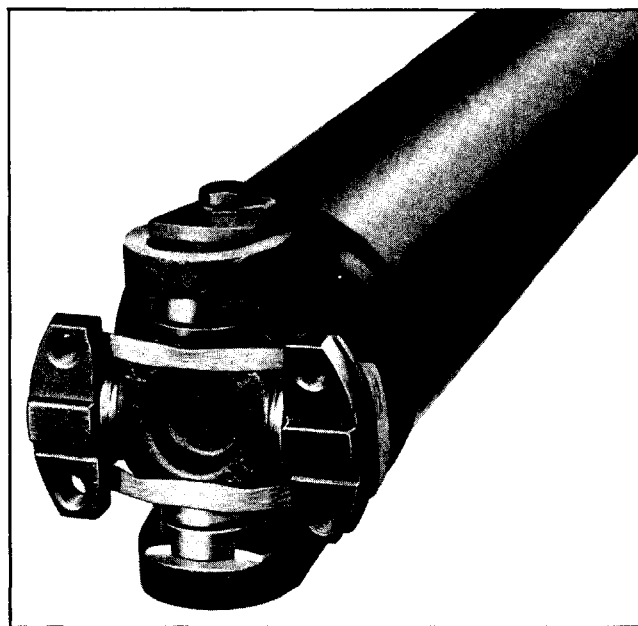

Fig. 4-49 Flanged Bearing Held in Place By Rubber Band
disengage drive lugs. Use a piece of soft wire or a heavy rubber band to hold flanged bearings onto journal and to prevent loss of needle bearings when rear joint is disconnected (Fig. 4-49).
2. Place flanged bearings onto journal and retain in place with rubber band or wire (Fig. 4-49).